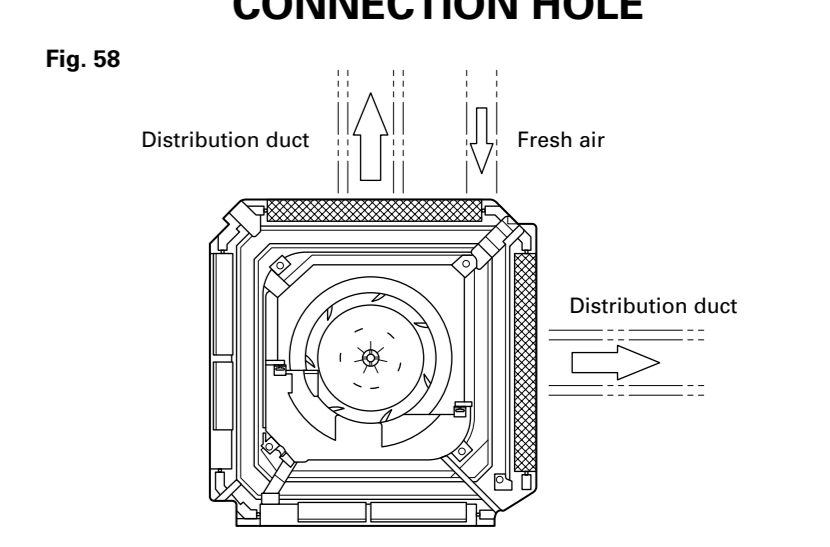

Fig. 58
- When connecting the distribution duct, to make the air flow easily, block the outlet port with the blower cover insulation as shown by the hatched lines in Fig. 58. For the blocking direction, refer to Fig. 43.